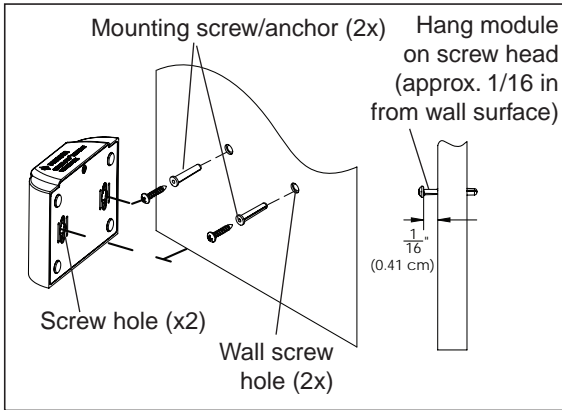
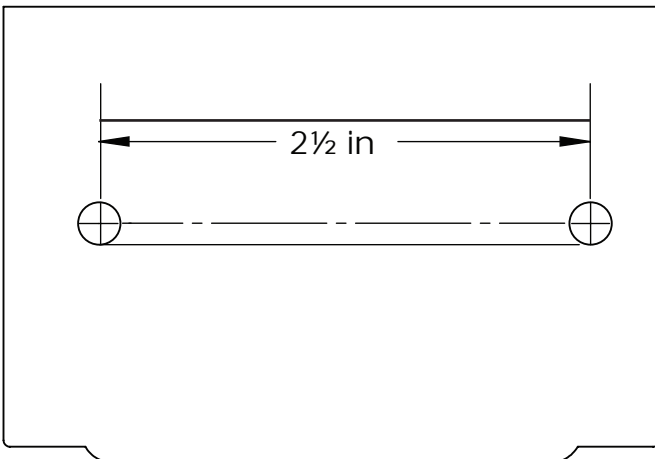

Figure 2: Wall Mount the Indoor Wireless Transceiver
Figure 3: Wall Mount Template for HPW Link Indoor Transceiver
**Wall Mount the HPW Indoor Transceiver (Figure 2 and Figure 3 on page 7).** Mount the HPW Indoor Transceiver on an indoor wall as follows:
2. Drill two holes (0.223 in) 2-1/2 inches apart as shown on the template (see Figure 3 on next page).
4. Insert the screws into the wall plug. Don't insert the screws all the way into the wall, leave about 1/16 in for the wireless transceiver to hang on the head of the screws (see Figure 2 on next page).